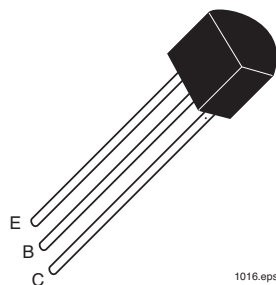

Figure 2. TO-92 transistor package.
3. Play close attention to the legend detail on the PWB and install Q1 appropriately. If you need further clarification, refer to the transmitter circuit schematic and **Figure 2**.